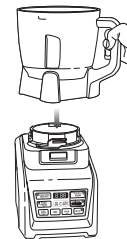

Fig. 2
- 4 Rotate the pitcher clockwise until it clicks in place. As the pitcher rotates, it will lower and the safety tabs on the bottom of the pitcher will slide under the safety tabs on the top of the motor base. (Fig. 2)
- 3 Holding the desired blade assembly by the top of the shaft, place it onto the drive gear inside the bowl. Ensure that the blade assembly is seated properly and is standing upright. (Fig. 2)
- 7 When you have reached your desired consistency, stop the appliance by pressing the power button (⏻) and wait for the blade to stop turning. **(Fig. 2)**
- 8 To remove the lid, press the release button on the lid and pull the lid handle up to a 90° angle. **(Fig. 2)**
- 4 Place the Pro Extractor Blades® onto the cup and tightly screw it on clockwise until you have a good seal. **(Fig. 2)**